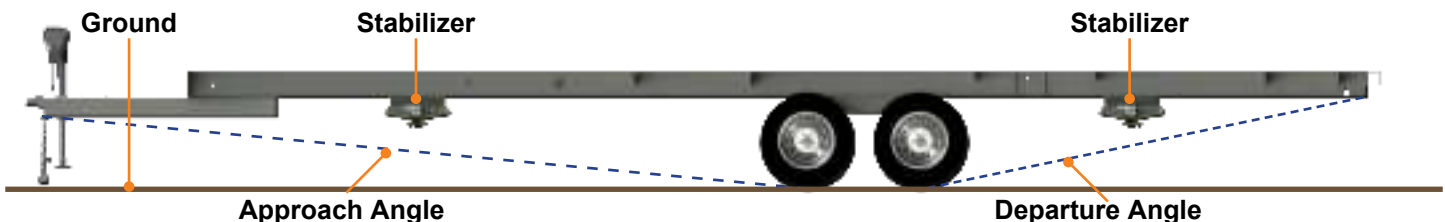

Fig.22
2. To measure approach and departure angle, run a string line from the meeting point of the tire and ground up at an angle to the lowest point on the front and rear of the trailer. These string lines are shown as dotted lines (Fig. 22).